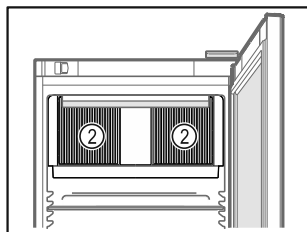

Fig. 54
- ❑ Ventilation slots Fig. 54 (2) for recirculation fan in the interior must be kept clear.